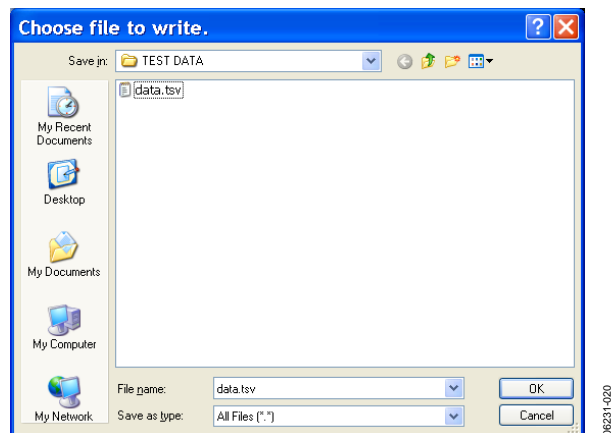

Figure 17. Save File Dialog Box
- **Save Data as .tsv:** save captured data in .tsv format for future analysis (see Figure 17).